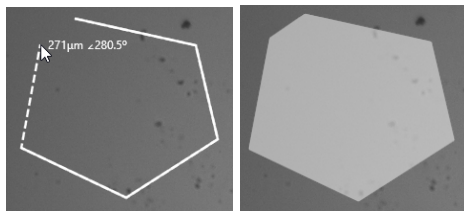

Figure 3-48 Drawing a polygon (l), polygon ready (r)
4. Press **POLYGON** to draw a polygon, see Figure 3-48.